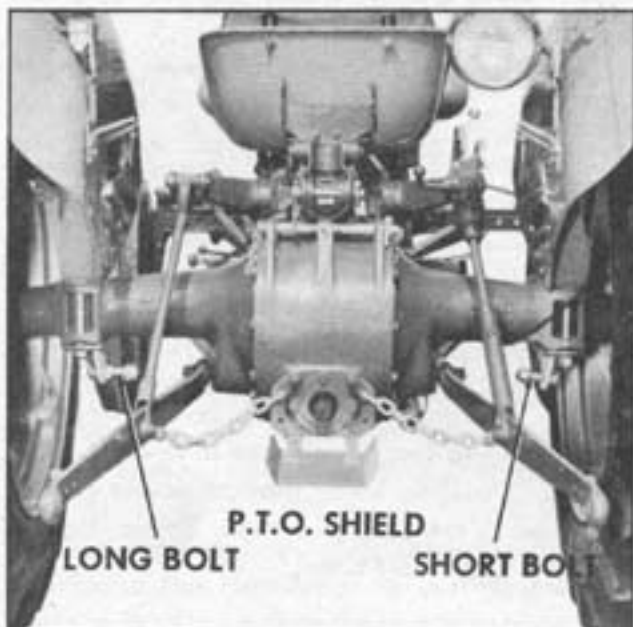

Fig. 6 Brackets and P.T.O. Shield Installed
2. Remove the tractor PTO cap and attach the PTO shield to the tractor shown in Fig. 6.